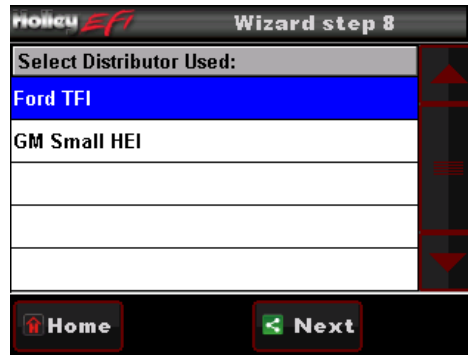

Figure 24
10. Select “GM Small HEI” or “Ford TFI” (Figure 24). Proceed to step 12.